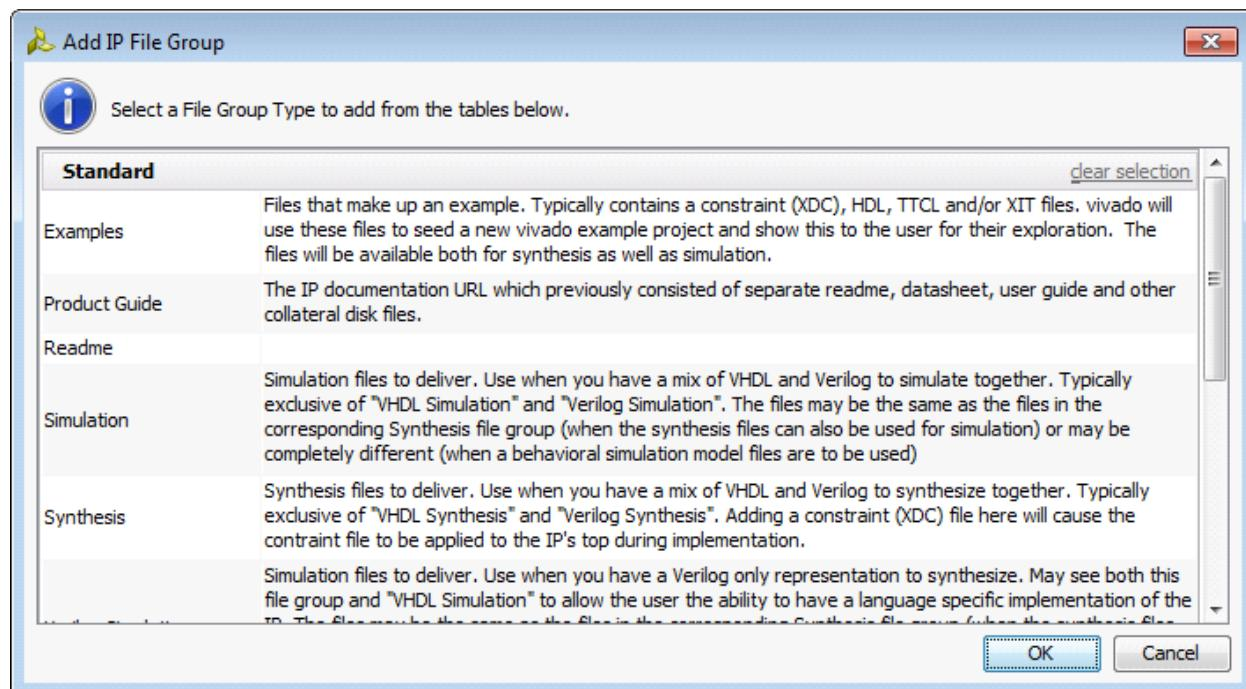

Figure 8-23: **Add IP File Group Dialog Box**
2. Choose which **File Group** types to add to the IP, as shown in Figure 8-23.